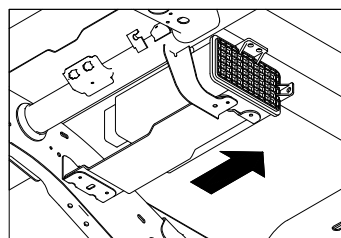
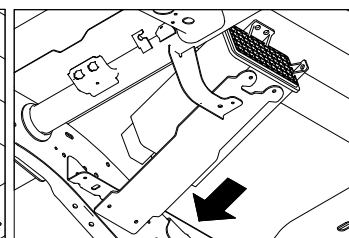

Figure A2: Looking up under the bed.
Figure A3
- 5. Detach fuel valve canister, if needed.** Locate the rectangle shaped fuel valve canister. The canister will need to be lowered during the installation. First remove the three small bolts that hold the canister bracket to the truck using a 10mm wrench. Then slide the canister toward the center of the truck far enough to allow the end toward the frame to be pulled downward, see Figure A2. Then slide the canister back toward the frame to allow the complete canister to drop down about 4 to 5 inches providing space for installation, see Figure A3. The canister will be re-attached in a later step.